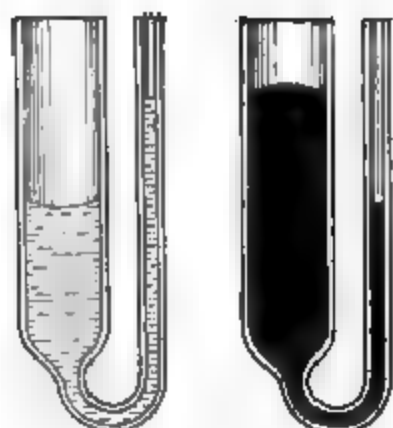

FIG. 76. — Capillarity in small tubes.
81. Capillarity. Suppose we have two U-tubes (Fig. 76) with their side tubes 30 mm. and 1 mm. in diameter. If we pour water colored with ink into the first tube, and mercury into the second tube, we observe